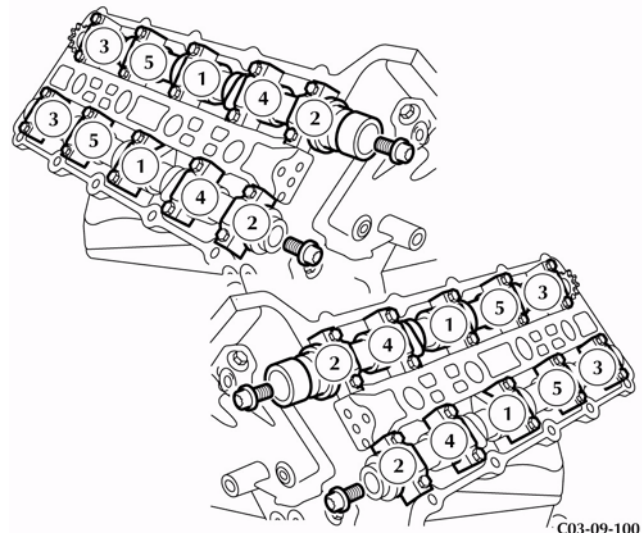

Figure 3
- Install and torque the ten bolts in the sequence shown in Figure 3.